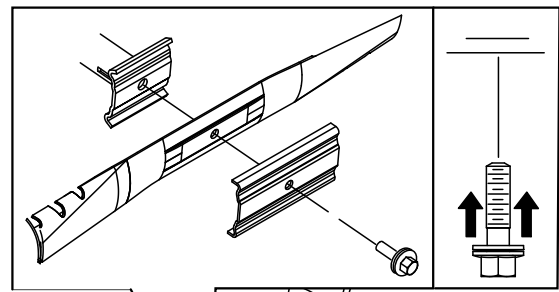

Figure 50
3. Use a block of wood to hold the blade steady (Figure 50).
4. Remove the blade, saving all mounting hardware (Figure 50).
5. Install the new blade and all mounting hardware (Figure 50).